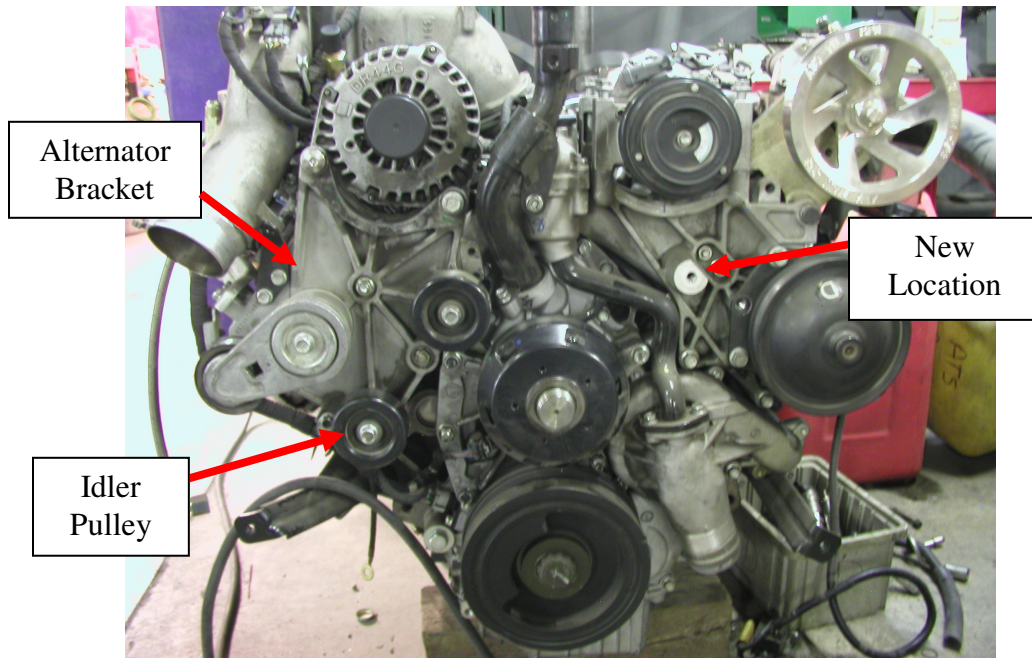

Figure 2: Relocate Idler Pulley
3. Remove the idler pulley shown in figure 2. Note: the engine shown is not a 2002-2004 model, but the idler pulley locations are accurate.
4. Reinstall the idler pulley in the new location shown in figure 2.